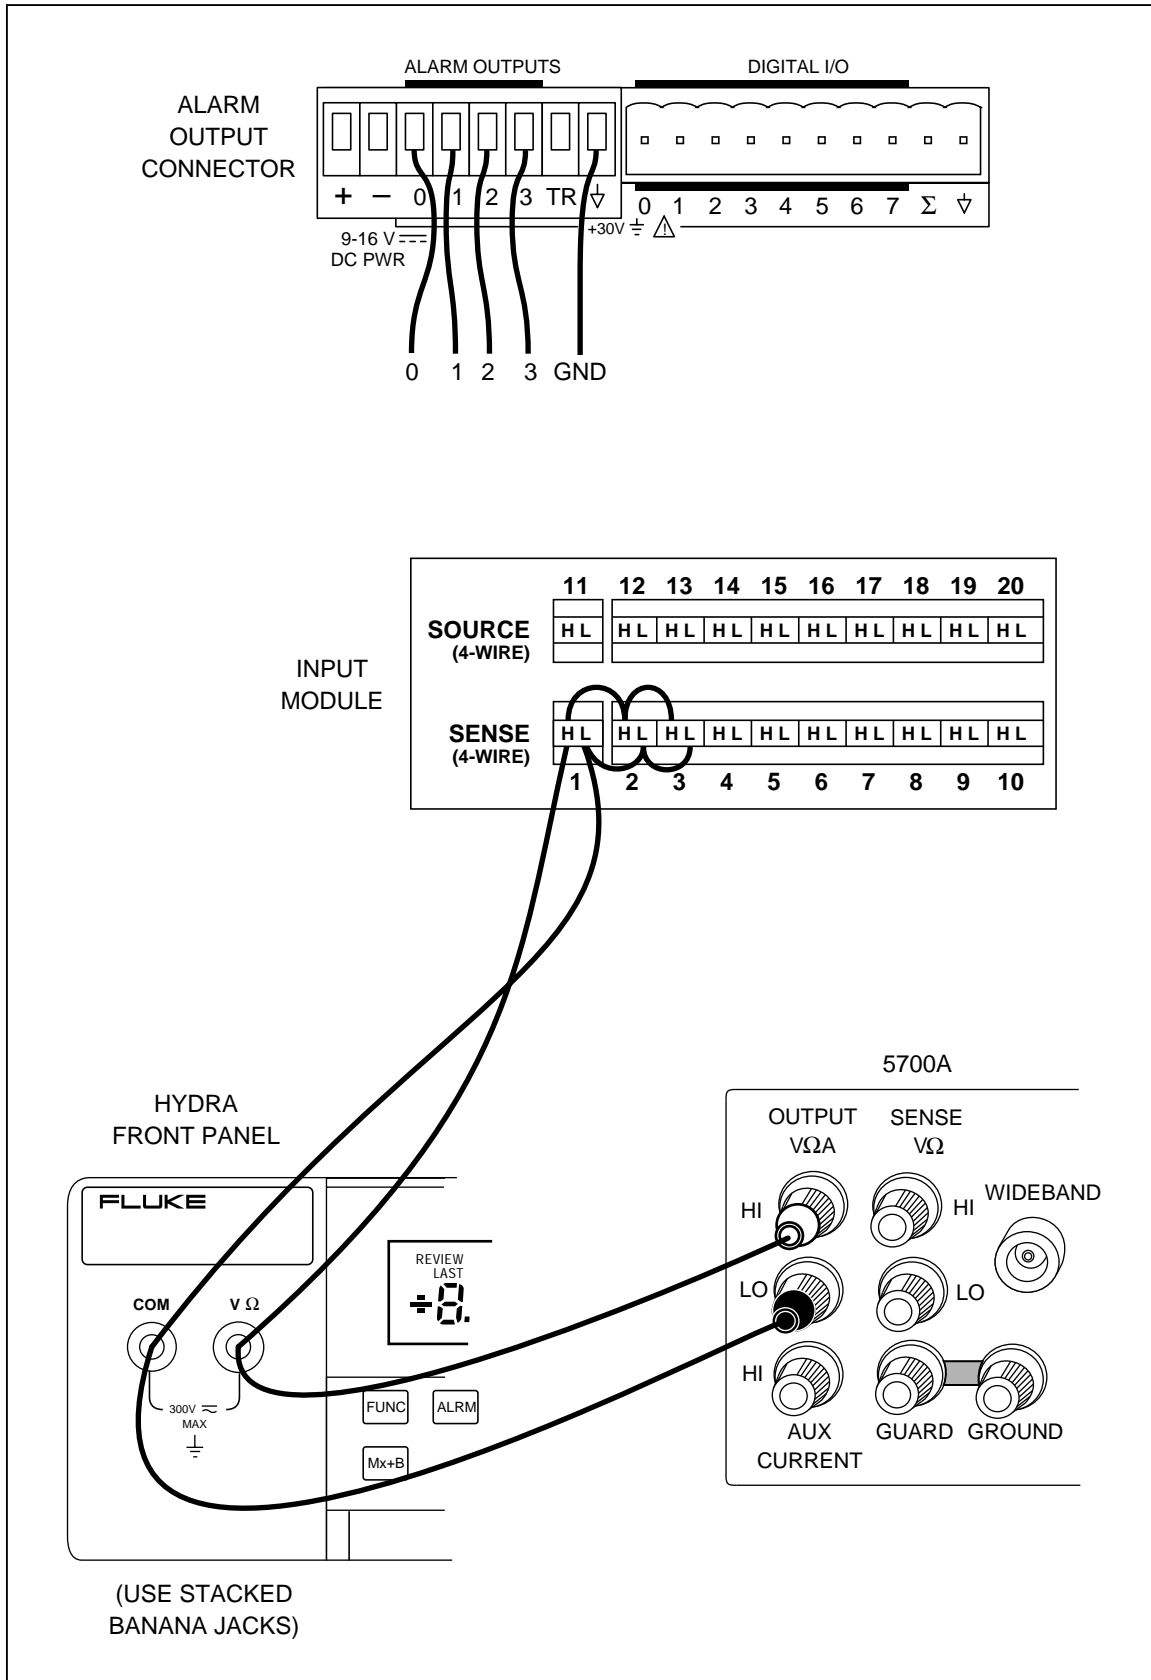

Figure 6-4. Dedicated Alarms Output Test
3. Remove the Input Module from the rear of Hydra Series II. Open the Input Module and jumper the H (high) terminal of channels 1, 2, and 3 together. Connect a test lead to the H of channel 1. Also jumper the L (low) terminals of channel 1, 2, and 3 together. Connect a second test lead to the L of channel 1. Install the Input Module back into Hydra Series II. Refer to Figure 6-4.